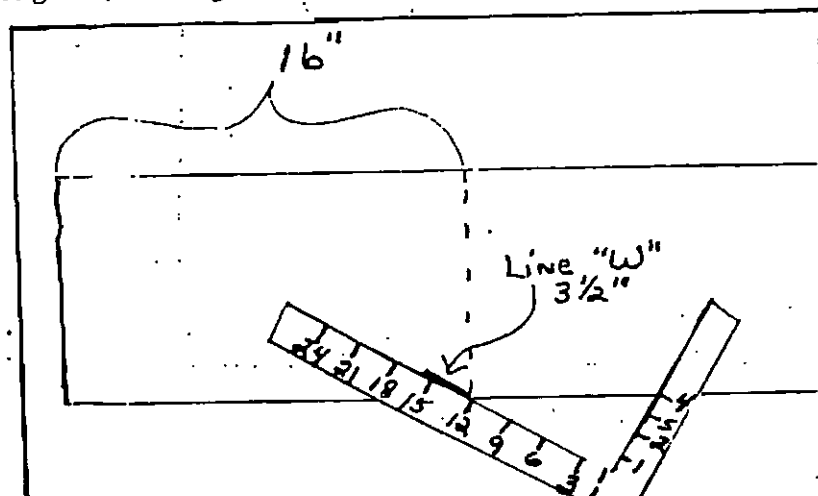

FIGURE 41
Step 5. Place a framing square on the rafter so that the 12" and the 4" (or whatever rise is desired--we will use a rise of 4" in this example) line up with the rafter as shown. Draw line "W" 3 1/2" long. (See Fig.41)